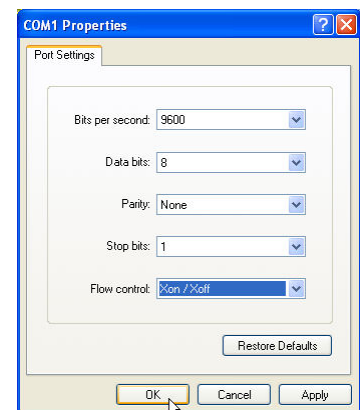

FIGURE 17
- 4 The **COM1 Properties** window shown in Figure 17 appears. Set each Port Settings field as shown in Figure 17 and click **OK**.